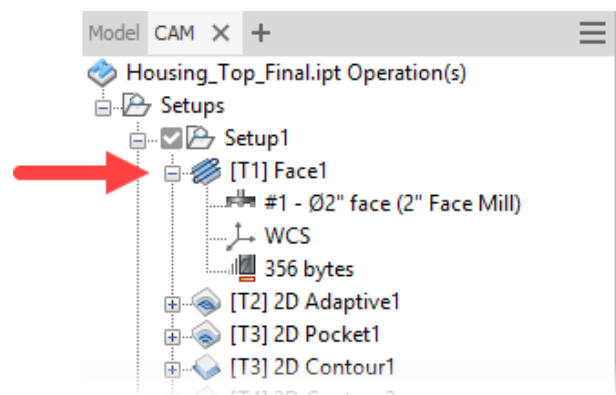

Figure 3
- Expand a toolpath node to display information on its tool, WCS, and size, as shown in Figure 3.